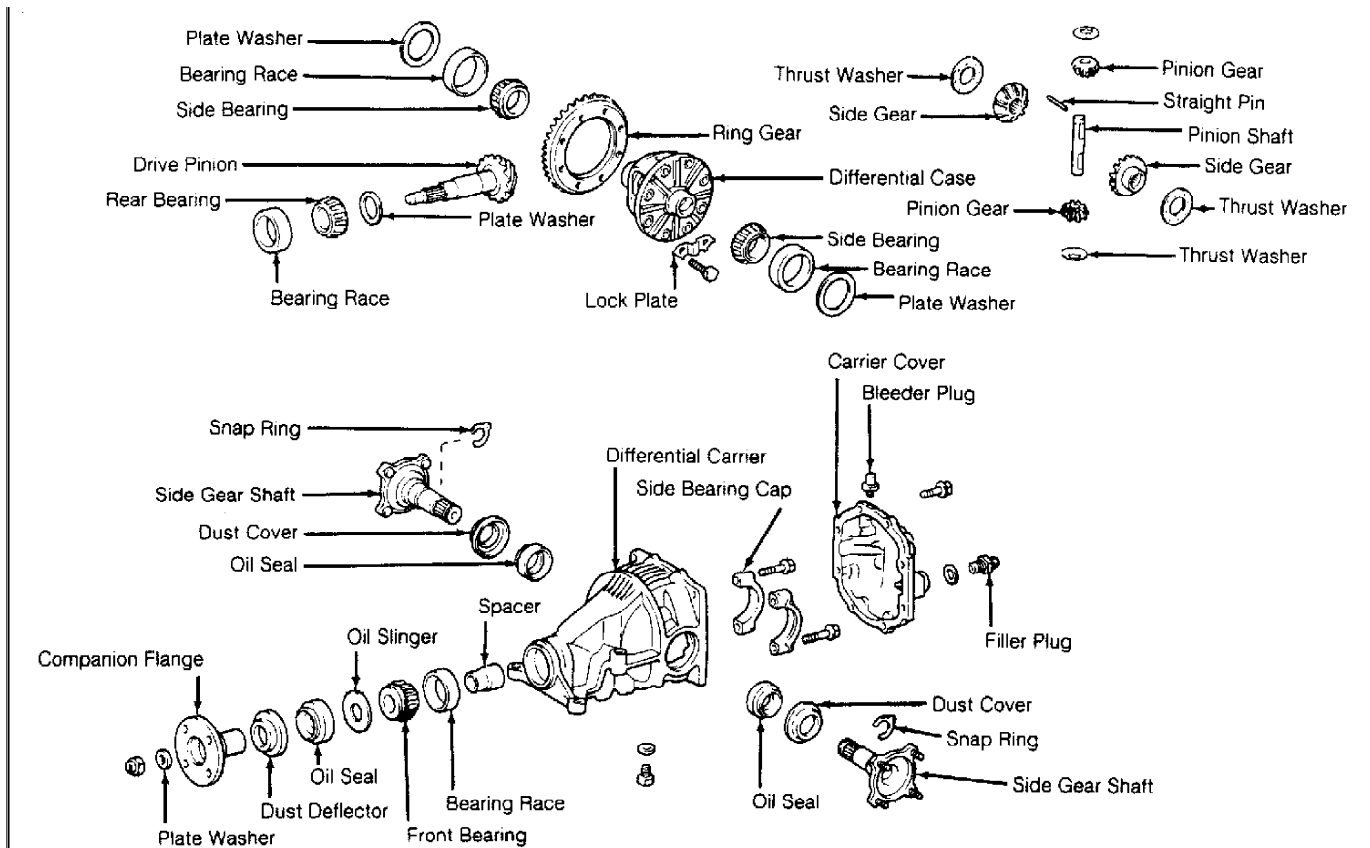

Fig. 1: Exploded View Of Rear Differential Assembly
NOTE: During removal and installation procedures, refer to Fig. 1.
NOTE: Refer to Fig. 1 during overhaul procedures.
1) Install side gears and thrust washers in case. See Fig. 1. Thrust washers should be same size for both sides. Install pinion gears with thrust washers. Tap pinion shaft into place. Hold pinion gear toward case. Check side gear backlash.